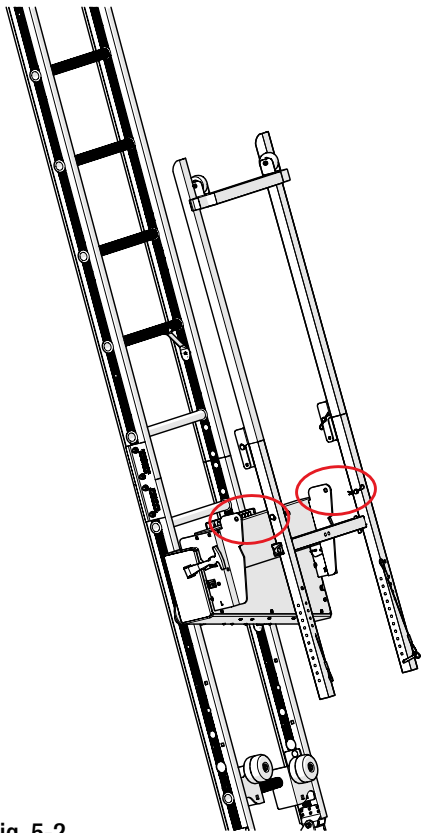

Fig. 5-2
3. Lift the frame into place by matching the mounting holes on the frame with those on the tilt back mount. See Fig. 5-2.